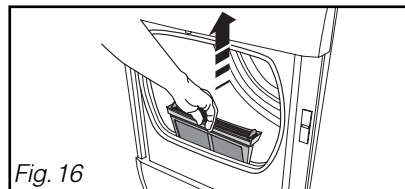

Fig. 16
- Remove it from its housing by pulling it upwards (Fig. 16).